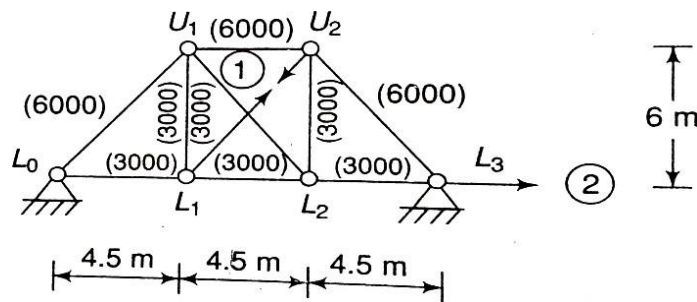

Figure 3.7
7. Develop the flexibility matrix for the pin-jointed plane frame with reference to coordinates 1 & 2 shown in Figure 3.7 The numbers in parentheses are the cross-sectional areas of the members in mm^2